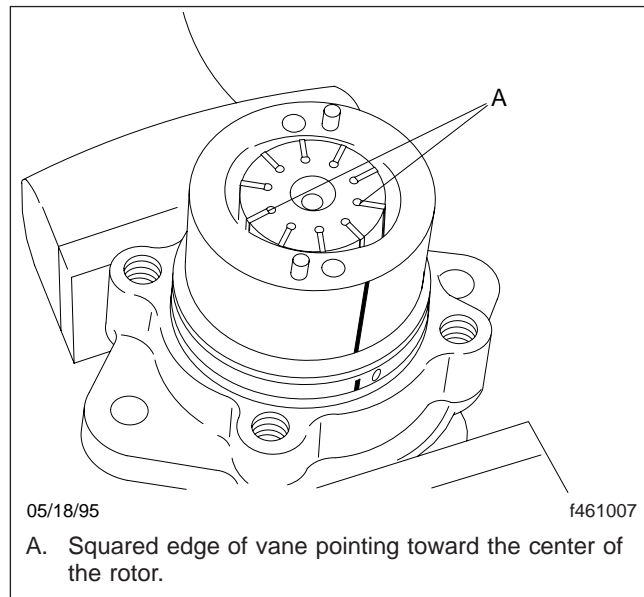

Fig. 32, Installing the Rotor and the Vanes
10. Install the rotor and vanes. Make sure that the squared edge on each vane points toward the center of the rotor. See Fig. 32.